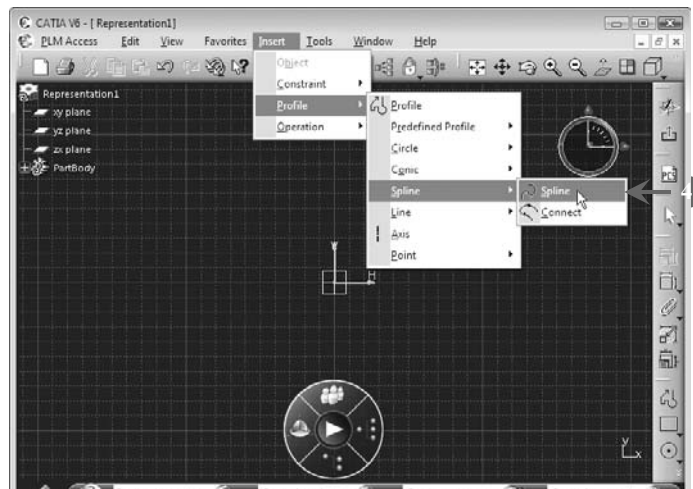

FIGURE 5.65
The Sketcher workbench is displayed with the *xy*-plane as the sketching plane (**Figure 5.65**).
4. Select **Insert > Profile > Spline > Spline** from the menu bar to draw a spline, as shown in **Figure 5.65**: